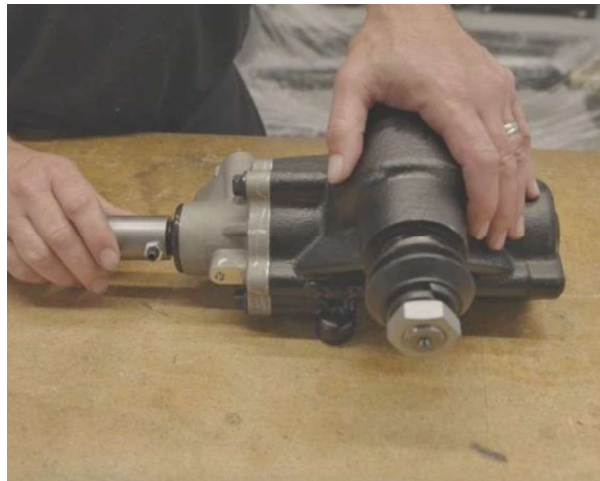

Figure 8 - Center Steering Gear
9. Before installing the DSE steering gear, center the gear on the bench. Turn the input shaft all the way to one side. Turn the gear all the way in the other direction and count the turns. Turn the gear back in the opposite direction, 1/2 the number of turns (Figure 8). **NOTE:** DSE recommends painting the steering gear before installation.